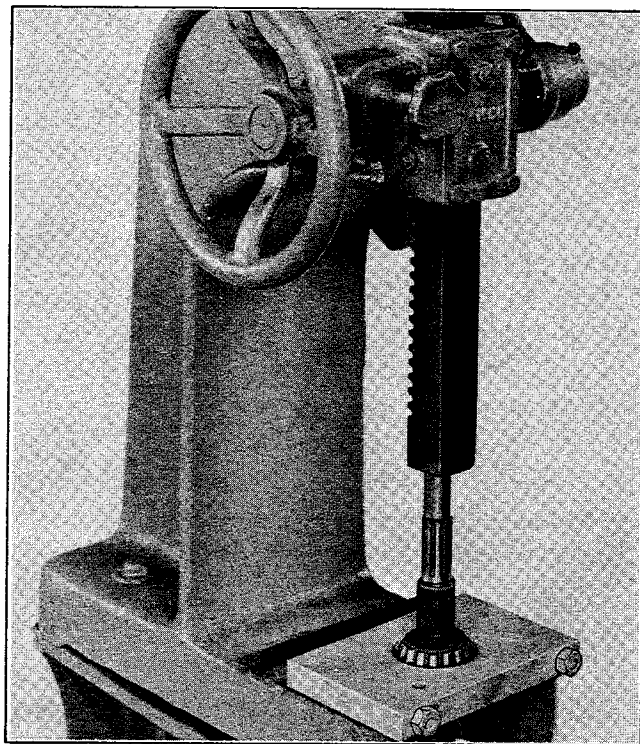

Figure 2-9. Removing Pinion Shaft Rear Bearing Cone
15. Remove drive pinion shaft rear bearing cone (23), with press tool similar to one shown in Figure 2-9.
16. Remove drive pinion shaft bearing cups (27) and (28) from housing with a drift or suitable puller. When removing bearing cup (28), remove adjusting shims (30), and record thickness of shims.